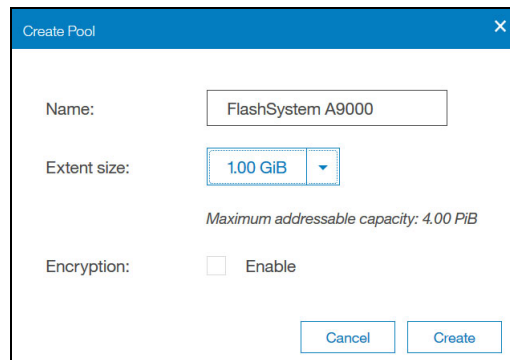

Figure 3-13 Creating an MDisk group or pool by using the IBM FlashSystem A9000 or IBM FlashSystem A9000R MDisks
- Create a pool (or MDisk group) on the SAN Volume Controller by clicking **Create Pool**. Figure 3-13 shows the Create Pool window.